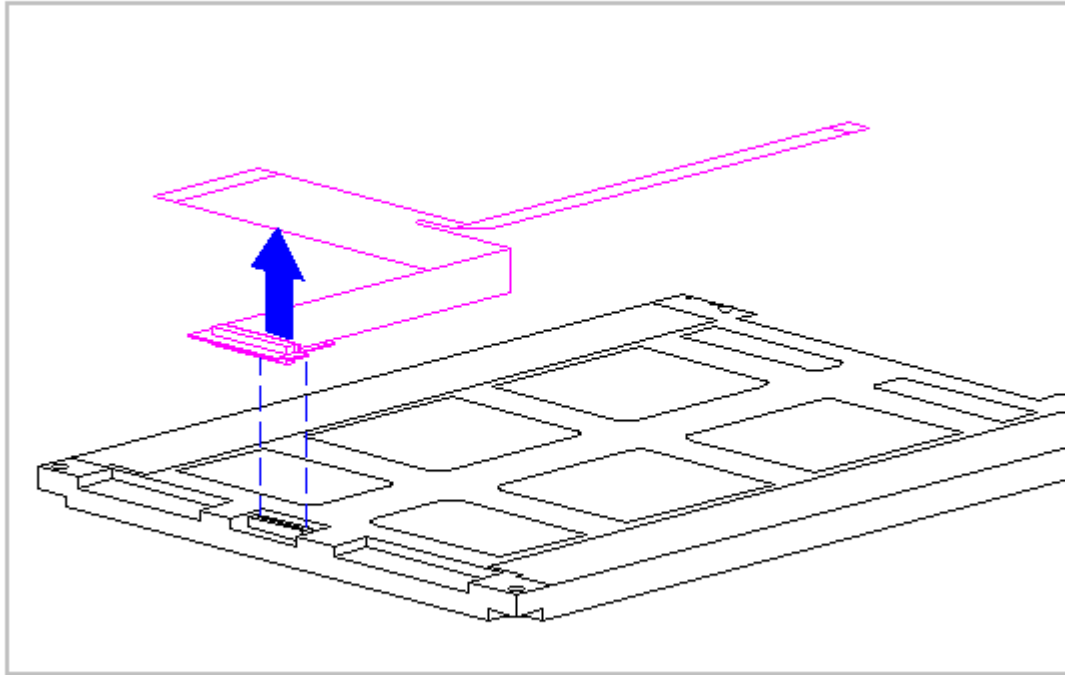

Figure 3-148. Removing the Display Cable from the CSTN (10.4 inch) Panel (Models 420 and 430)
17. Disconnect the display cable from the connector on the back of the CSTN (10.4 inch) panel (Figure 3-148).